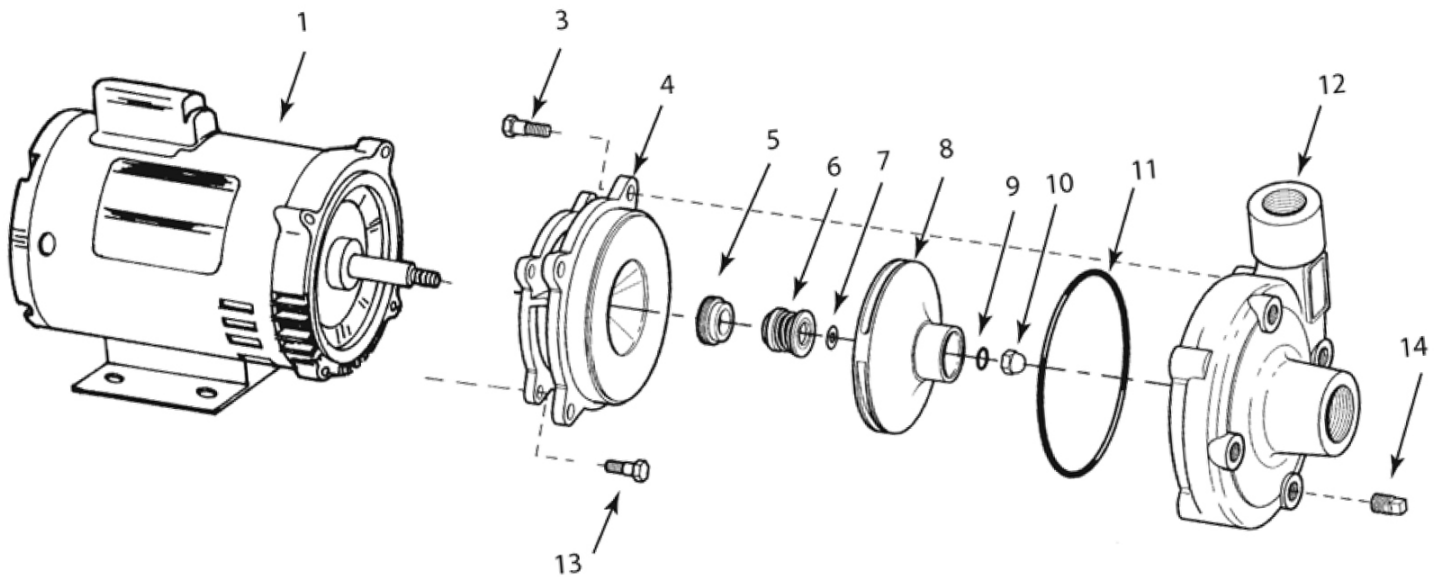

Figure 2 - Repair Parts Illustrations
5. Wet the inside rubber portion of new seal head with a light coating of soapy water. Slide head onto motor shaft with sealing surface facing seal seat (see figure 2).